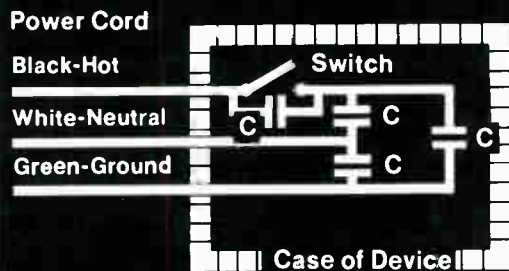

Fig. 8
a. Interference from a drill or saw is actually caused by arcing between the brushes and commutator. The interference then is transmitted through the power cord. Bypassing each side of the line to ground with a capacitor, and each side to the other may be helpful. Also bypass the switch. Figure 8 shows the schematic involved. The bypassing should be internal to the device in question.